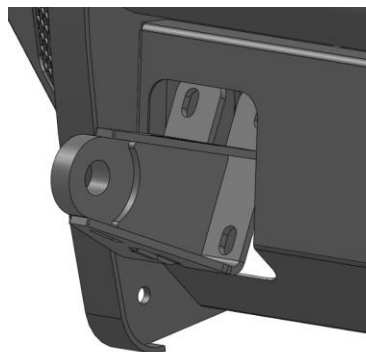

Figure 5
3. **OPTIONAL:** If installing your bumper with D-ring shackle mounts, they should be placed inside the bumper mounting brackets before final installation. Insert the shackle mounts from the front of the bumper as shown below. **(Figure 5)**